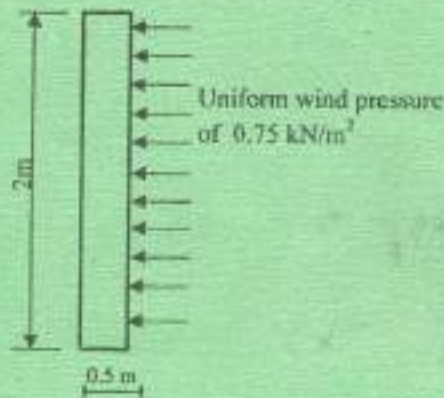

Fig. 2
4. (a) Determine the resultant if tension occurs at the base when a lateral thrust of uniform wind pressure acts on the wall shown in figure 2.